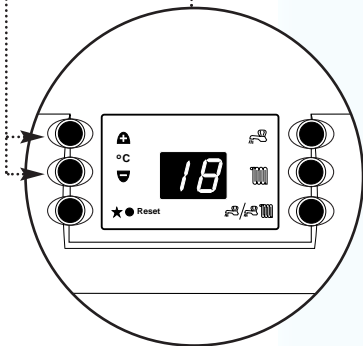
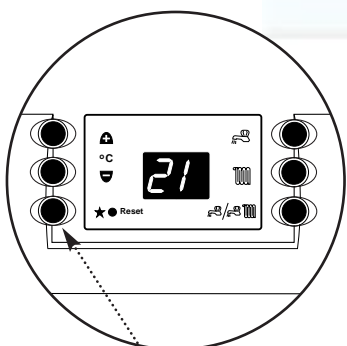

Fig. 35
Fig. 37
a) While On or OF is shown on the display ie: no CH or DHW demand ongoing. Depress the "+" and "-" Temperature Control Buttons at the same time for 5 seconds. The display will show "18" (Fig. 35) where the "1" indicates that the installer parameter for range rating has been accessed and the "8" indicates that the boiler is presently set for a maximum Central Heating output of 80,000 Btu/hr.
3. **The boiler is factory set with the pre-heat feature on.** If the user wishes to disable this feature then depress the "+" and "-" Temperature Control Buttons at the same time for 5 seconds. The display will show "18 or 10" (Fig. 35 or 36). Press the Summer/Winter Mode Button marked (☀/❄) and the display will show "21" (Fig. 37). The "2" indicates that the installer parameter for pre-heat has been selected. The "1" indicates that the pre-heat is switched on.